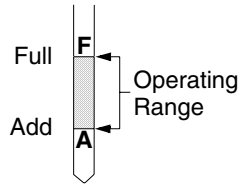

Figure 25
Before checking the oil level, clean the area around the oil level dipstick to prevent debris from entering the crankcase. Refer to Figure 26. Always keep the oil level between the “FULL” and the “ADD” marks on the dipstick. See Figure 25.
- Remove the oil filler cap from the left valve cover and SLOWLY pour in oil. Fill the crankcase until the oil level reaches the "FULL" mark on the dipstick. Refer to Figure 25.